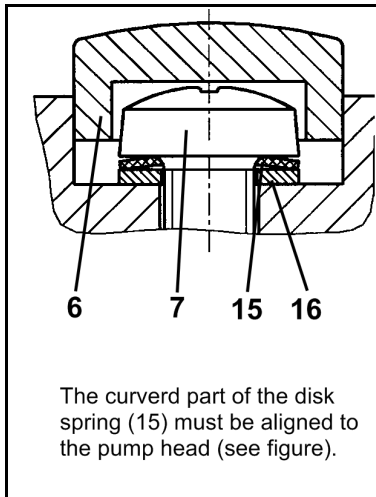

Fig. 11: Orientation disk spring
7. Check that the valve plates/sealings (2) are not deformed by moving them gently sideways in their recesses.
8. Place the head plate (4) on the intermediate plate (1), in the position indicated by the marking (M).
9. Check that the head plate (4) is centred by moving it gently sideways.
10. Join the head plate (4) and the intermediate plate (1): Tighten the two screws (7) (tightening torque: 70 Ncm).
- i** For placement of disk spring (15) and washer (16) and for orientation of disk spring see fig. 11.
11. Install the screw caps (6).